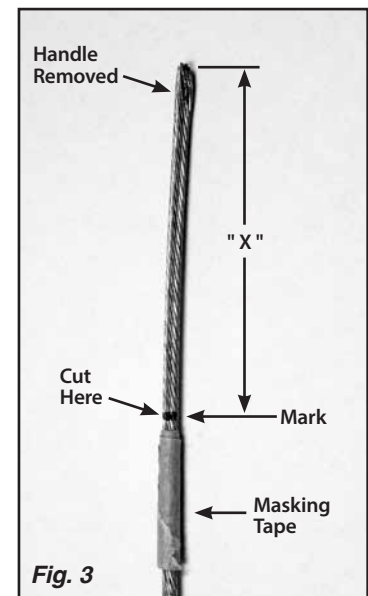

Fig. 3
Step 8: Measure down from the top end of the inner measuring cable and make a mark at the distance you recorded in **Step 6**. Wrap 2 or 3 turns of masking tape around the inner measuring cable immediately below your mark. **Fig. 3**